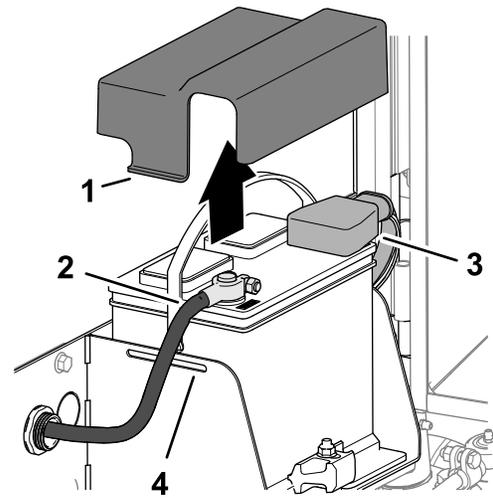

Figure 91
3. Press the sides of the battery cover, and remove the cover from the battery tray (Figure 91).